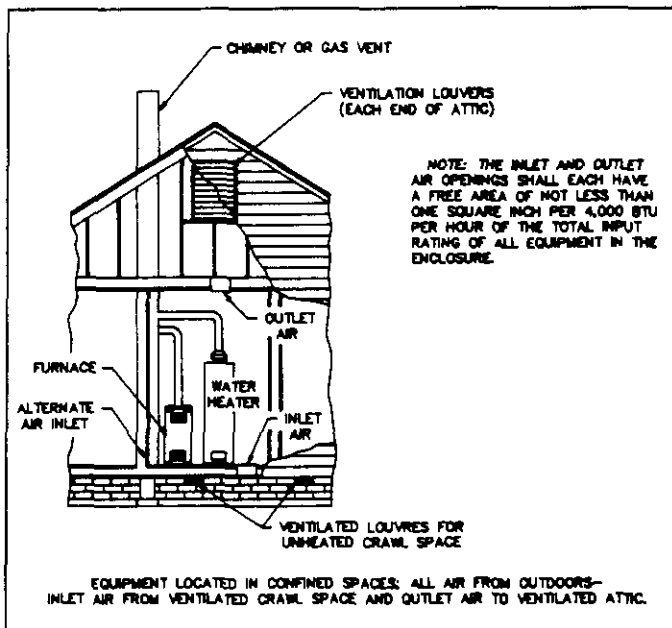

FIGURE 13
3. When directly accessing the outdoors, each opening must have a minimum free area of one square inch per 4,000 Btuh of total combined input rating of all gas appliances within furnace space. See Figure 13.